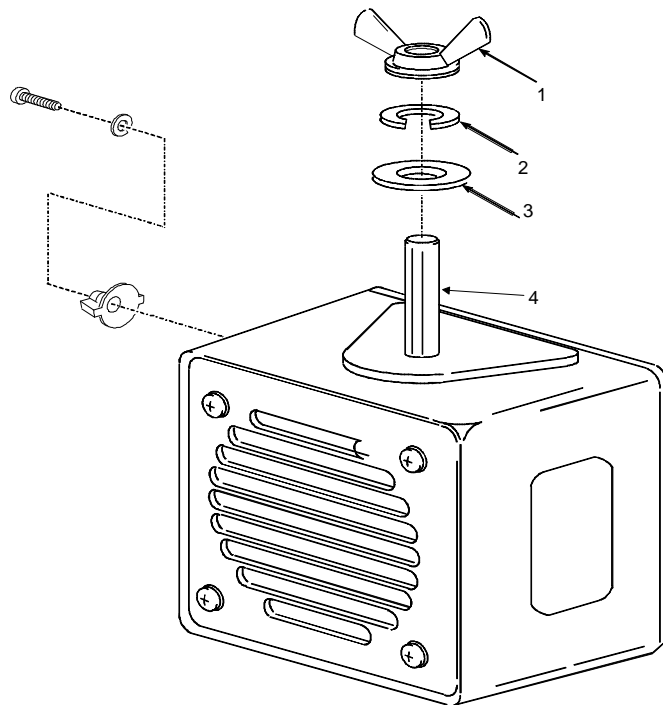

Figure 3-29. Loudspeaker Assembly
3.12. LOUDSPEAKER KNOB AND MOUNTING HARDWARE REMOVAL AND REPLACEMENT PROCEDURES (Fig. 3-29)